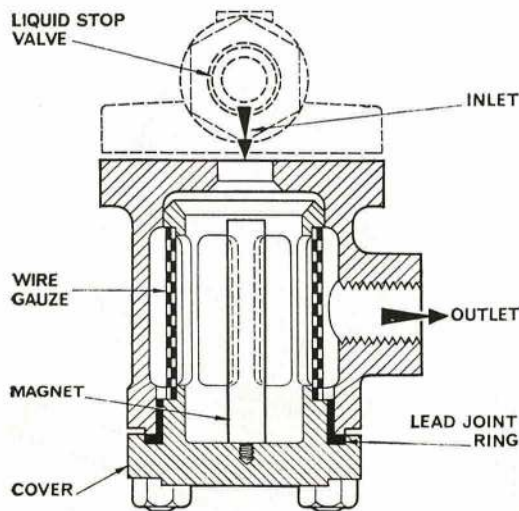

Fig. 7. LIQUID FILTER
18. **Liquid Filter.** The purpose of the liquid filter (Fig. 7) is to collect any foreign matter that may be present in the refrigerant and thus protect the expansion valve. It achieves this purpose by means of wire gauze and a magnet. A stop valve is fitted to the inlet connection at the top of the filter casing.